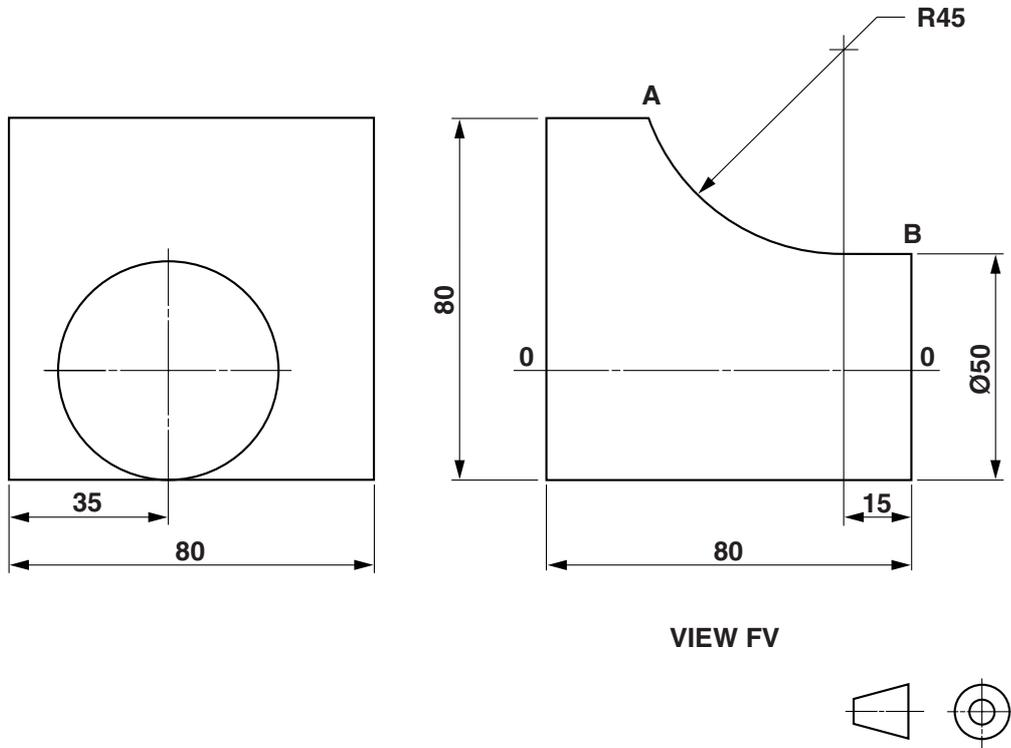

Fig.2
- 2 Fig.2 shows a block of metal which has been turned in a lathe until the right hand end is cylindrical. The line **AB** represents the generating line of a surface of revolution about the axis **OO**.